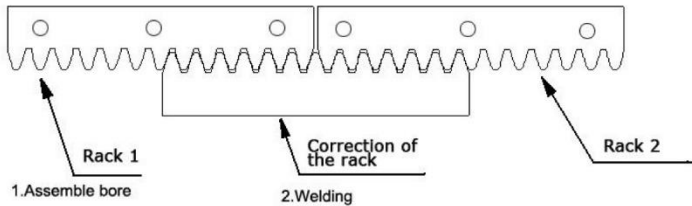

Fig 14
2. Gear rack length depend on gate length ,each gear rack is 1 metre. Put one end of rack on the output gear of motor as a temporary support. Make the rack horizontal and mark the rack mounting holes (three holes) on the gate .(Fig 14)